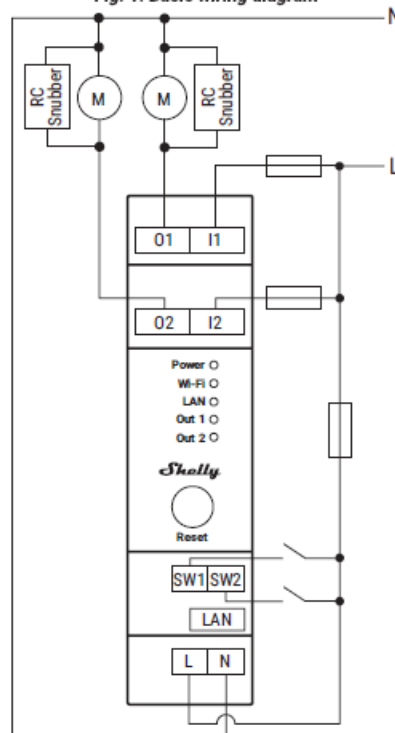

Fig. 2: Wiring diagram with Shelly RC Snubber
- For inductive loads, connect an RC snubber in parallel to the load. For more details, see Fig. 2.